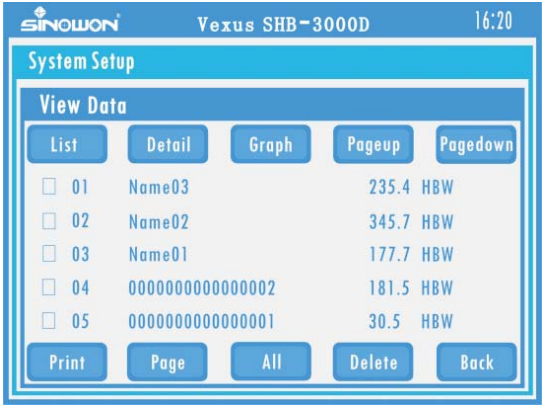

Fig.6-14
Click view data enter to see the result details, see Fig.6-14, conversion scale can be modified and show different value.
- 1) **List**: Each page shows 5 test results, the latest one is on top, see Fig6-14.